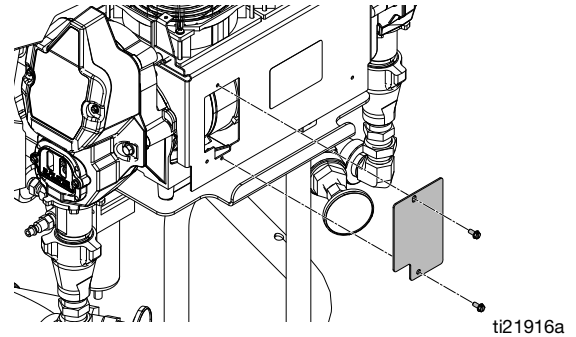

FIG. 19 Motor Brushes
6. Remove the display control cover (26). Disconnect the motor cables as follows:
- a. Remove the two bolts and access the cover plate. See FIG. 19, page 55.
- a. Remove the two bolts and access cover plate. See FIG. 19, page 55.